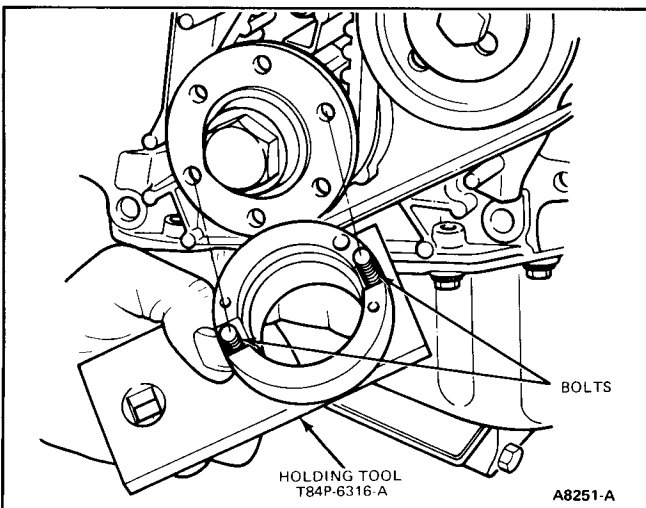

FIG. 32 Align Bolts in Vibration Damper
4. Install Holding Tool T84P-6316-A or equivalent, (Fig. 32), onto crankshaft pulley with two bolts supplied with tool. Remove flange retaining bolt and remove flange using Puller T67L-3600-A or equivalent.